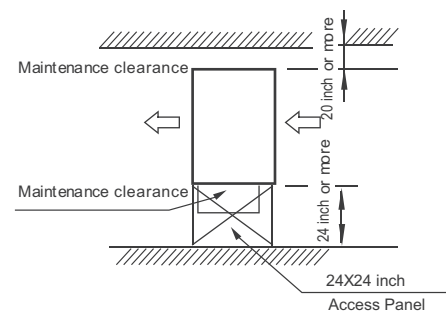

Fig. 12 —Maintenance Space Requirements
- There should be enough room within the false ceiling for installation and maintenance. See Fig. 12.